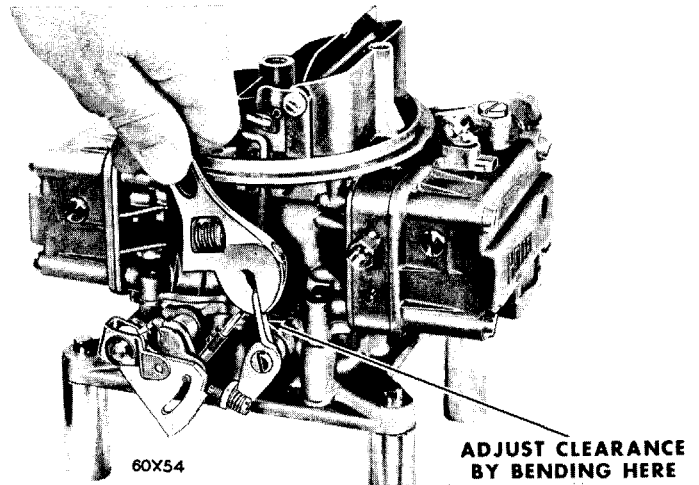

Fig. 21—Bending the Fast Idle Cam Lever
(1) Hold the choke valve lightly closed, then open the throttle valves to wide open position.
(2) The choke valve should open sufficiently to allow a minimum of a 1/16 inch drill shank between the wall of air horn and choke valve.
(3) If an adjustment is necessary, bend the fast idle cam lever, as shown in Figure 21, until correct clearance has been obtained.